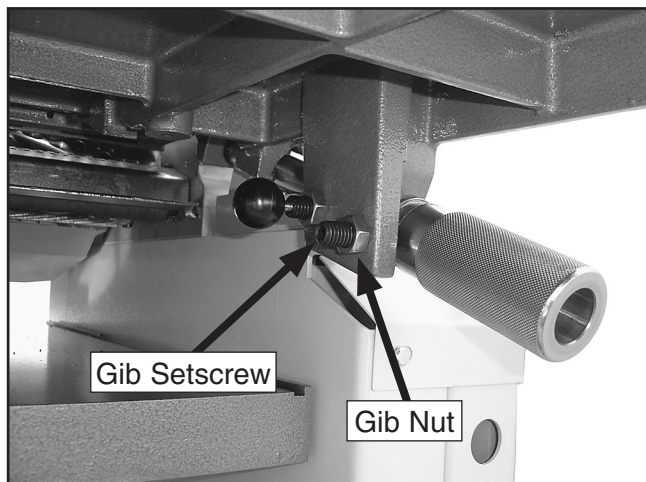

Figure 73. Infeed table gib control.
1. Using an adjustable wrench, loosen the infeed table gib nut under the rear of the table (**Figure 73**).